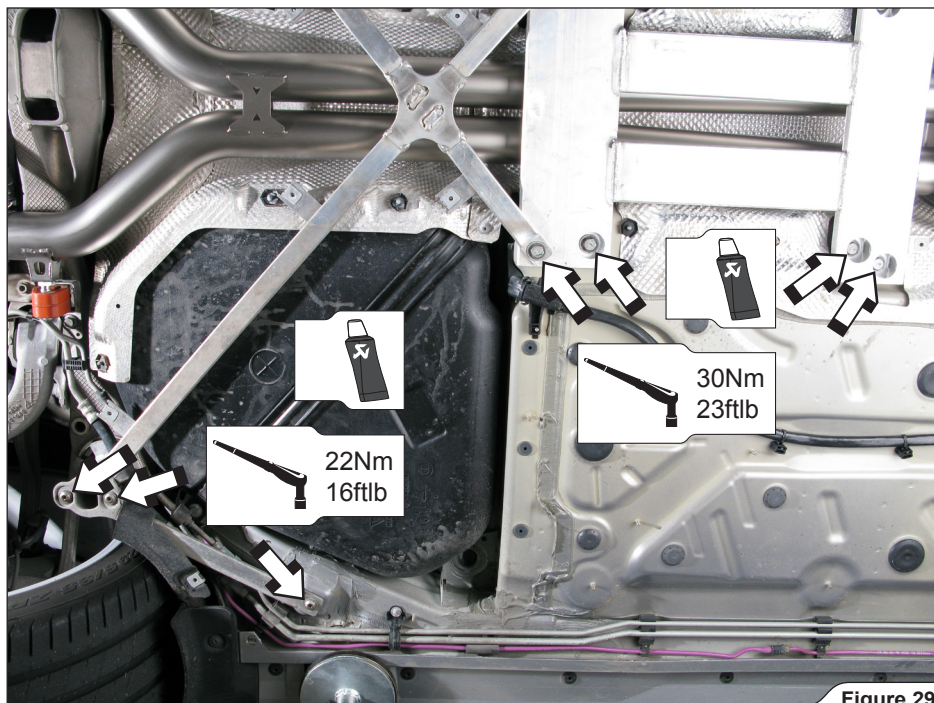

Figure 29
15. **For all vehicle models:** assemble both aluminium chassis reinforcements back onto the vehicle and tighten the bolts to a specified torques (**Figure 29**).